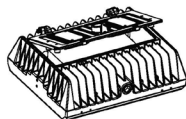

Figure 18
2. Pass the wire in the threaded pipe through the hole and connect to the wire of the terminal accordingly (Figure 18).